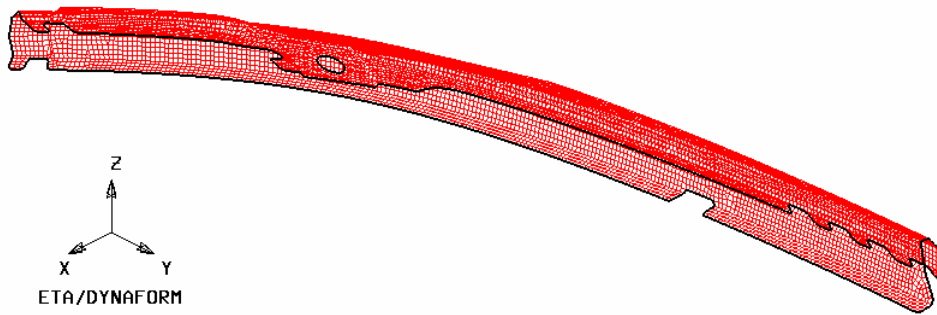

Figure 2.16: Boundary of part
1. Click the **Boundary Display** icon. Then, observe the displayed model. Your display should resemble Figure 2.16.